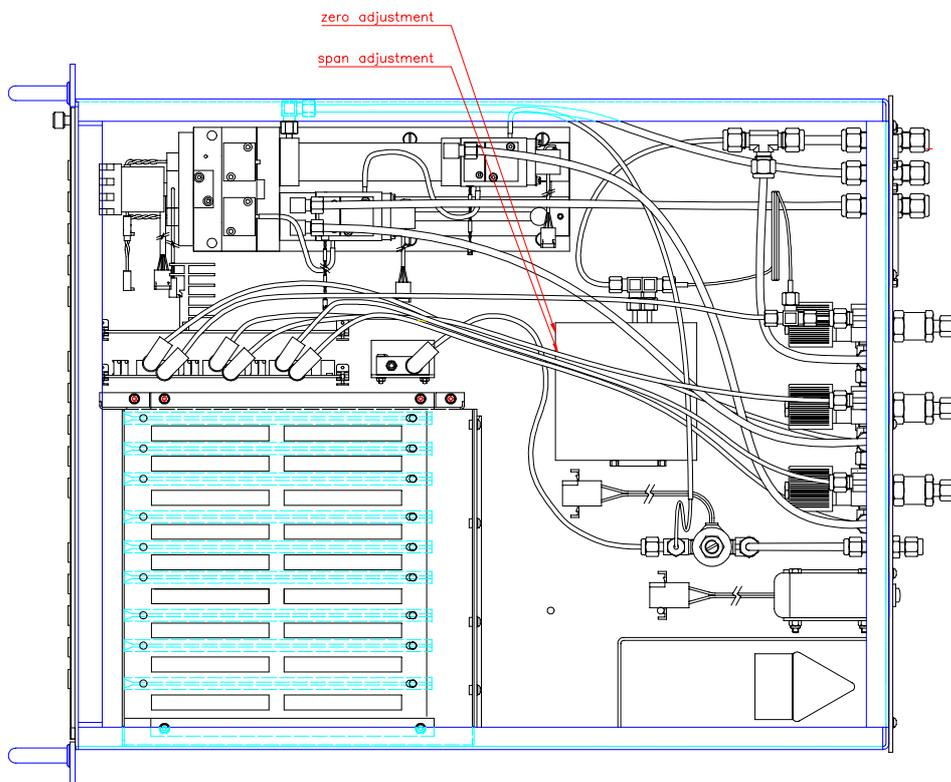

Figure 10 Major Component Location
- 12.4.5 When the reading has stabilised, open the front panel and adjust the relevant potentiometer (see Figure 10 and for potentiometer positions) until the concentration reading shows 0.00. If this cannot be achieved, please call the Signal Service Department.
- 12.4.7 When the reading has stabilised, adjust the relevant potentiometer (see Figure 10 and for potentiometer positions) until the concentration shows the span gas value.